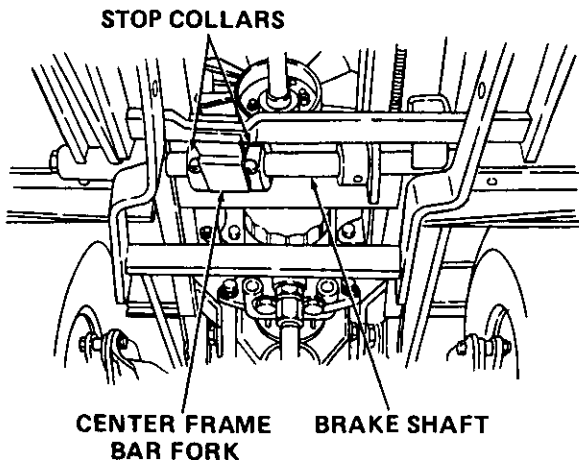

Figure 12
- On **Super Garden Tractors only**, engage center frame bar with the brake shaft as shown in Figure 12.
- Slide stop collars against center frame bar fork and tighten. See Figure 12.